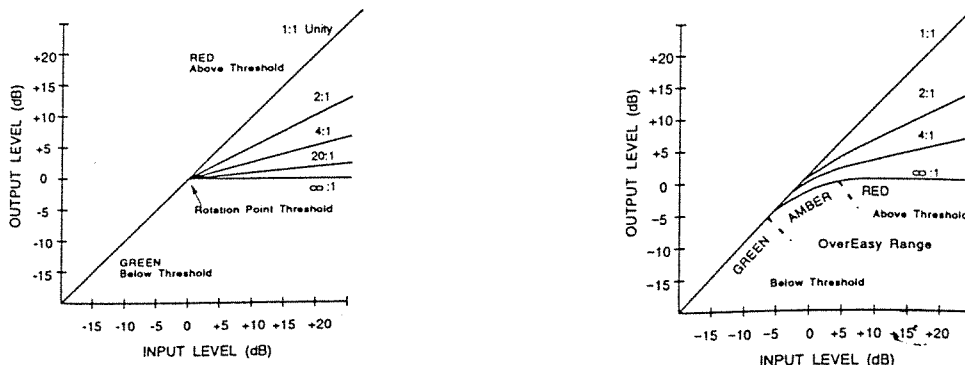

Figure 2: Hard Knee Compression Curve, and OverEasy® Compression Curve, and Threshold LEDs.
**Compressor Threshold OverEasy® (O) LED** This LED illuminates when the signal is in the OverEasy® portion of the compression curve. In this region the ratio varies as a function of signal level between 1:1 and the ratio set by the RATIO control. This LED is defeated when the OverEasy® function is disabled.
**OverEasy® Switch** OverEasy® provides a smooth transition from the compressor's linear region to the compressed region. This smooth transition greatly reduces compression artifacts and allows faster attack times and higher compression ratios while still maintaining the natural characteristics of the signal. The switch lights to indicate OverEasy® processing is enabled. When conventional hard knee processing is desired, disable the OverEasy® function. See Figure 2